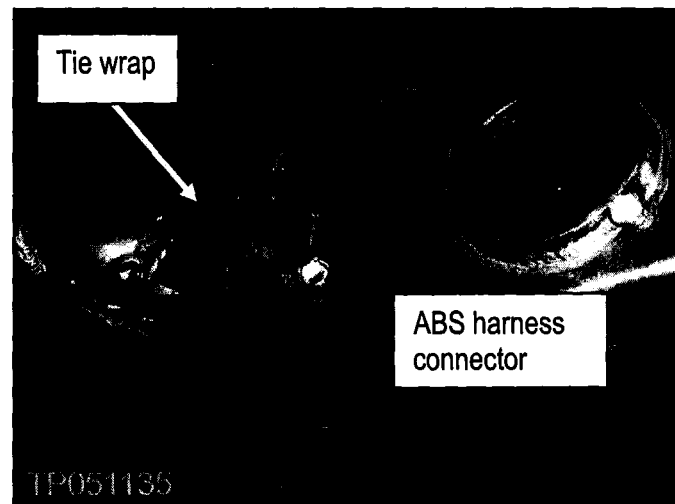

Figure 21
21. Disconnect the ABS harness connector and remove/discard the tie wrap from the suspension member (see Figure 21).